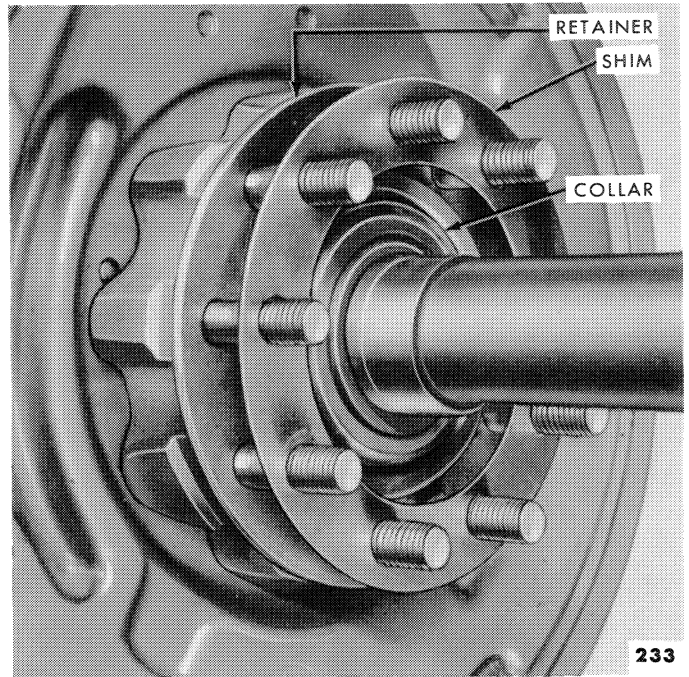

Figure 6—Axle Housing to Retainer Shims
1. Install the shim pack on the bearing retainer, Figure 6.
2. Pull out and push in on the axle shaft flange to make certain that end play exists. If there is no noticeable end play, the axle shaft assembly must be removed from the housing and a shim added, Figure 6.